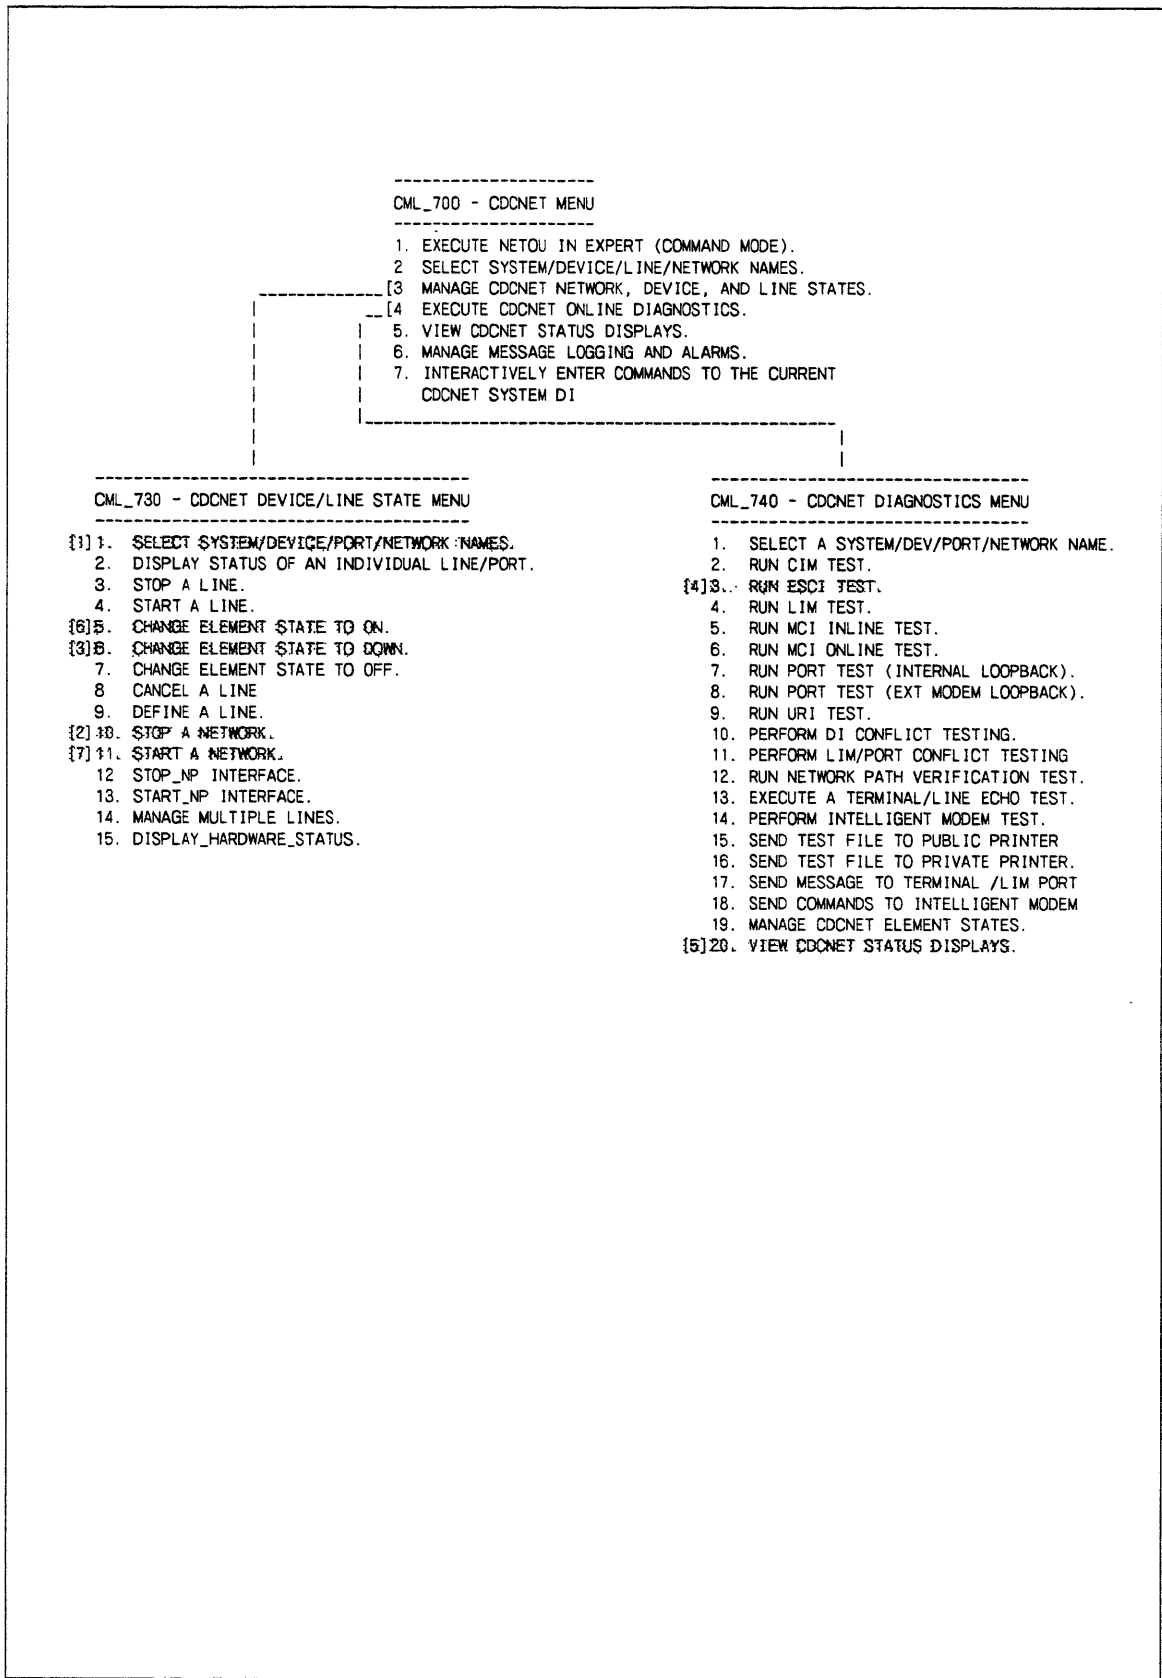

Figure 6-18. CML/VE Menus for ESCI Online Test
The following shows the CML/VE menu choices necessary to run the ESCI online test. Each menu choice is shown on figure 6-18 and described below. The purpose of this topic is to serve as a quick reference for the most frequently used menu selections. See chapter 4 for a complete description of CML/VE. Familiarize yourself with the ESCI test notes and procedure given earlier in this topic before running the test.
1. Numbers in this column correspond to the bracketed numbers (for example, [1]) on figure 6-18.